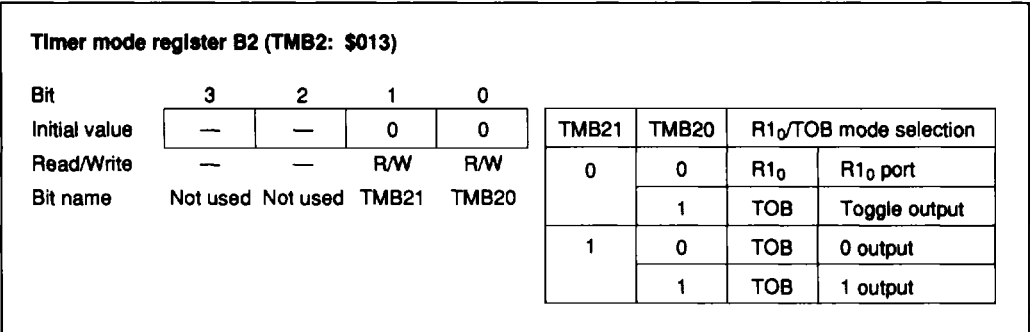

Figure 48 Timer Mode Register B2 (TMB2)
- **Timer mode register B2 (TMB2: \$013):** Two-bit read/write register that selects the timer B output mode as shown in figure 48. It is reset to \$0 by MCU reset.